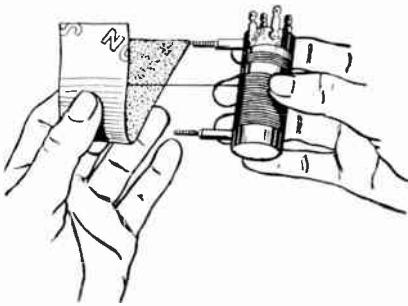

Fig. 5. Using small piece of sandpaper to remove enamel insulation from coil wire
**Repairing Breaks in Coils.** With patience and the right technique you can repair a break in even the finest wire used in coils, provided it is at the end of a winding so you can get at it. Clean the insulation off the broken end of the coil wire with a strip of fine sandpaper, as shown in Fig. 5. Use very gentle pressure because sandpaper can cut right through fine wire.